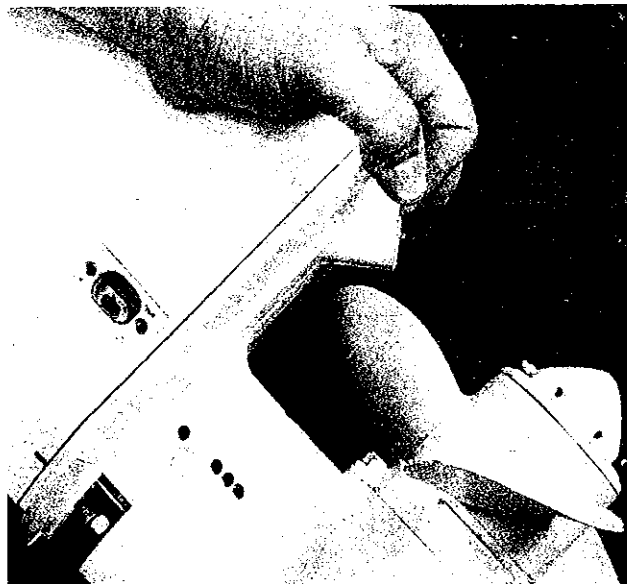

Figure 35. Mate gear housing and column.
- F. Push the gear housing up to within 1/4-inch of the column and start the lock washer and hex nut on the stud; then push the gear housing up so that it is flush to the column (Figure 35).